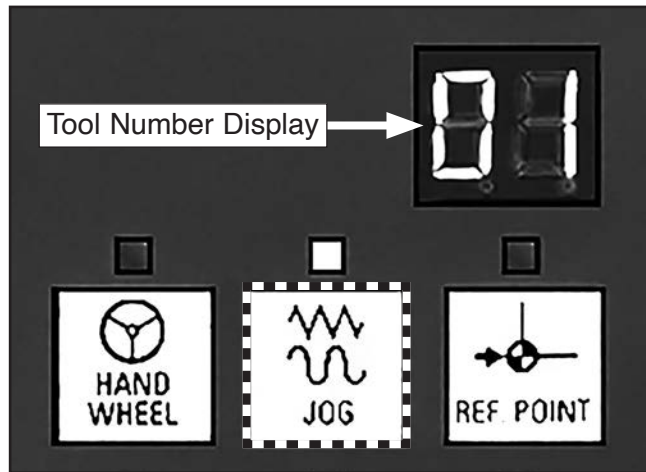

Figure 85. JOG mode key activated.
1. Press JOG key; LED will illuminate indicating that machine is in JOG mode, as shown in **Figure 85**.